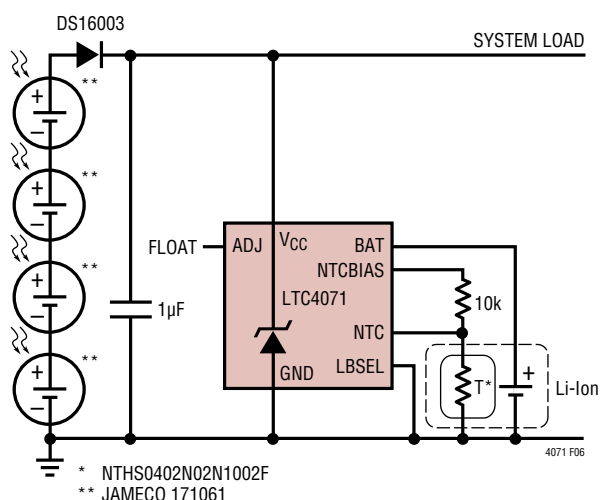

Figure 6. Simple Photovoltaic Charger
A simple photovoltaic (PV) application for the LTC4071 is illustrated in Figure 6. At low  $V_{CC}$  voltage, PV current flows to both the system at  $V_{CC}$  as well as the battery.